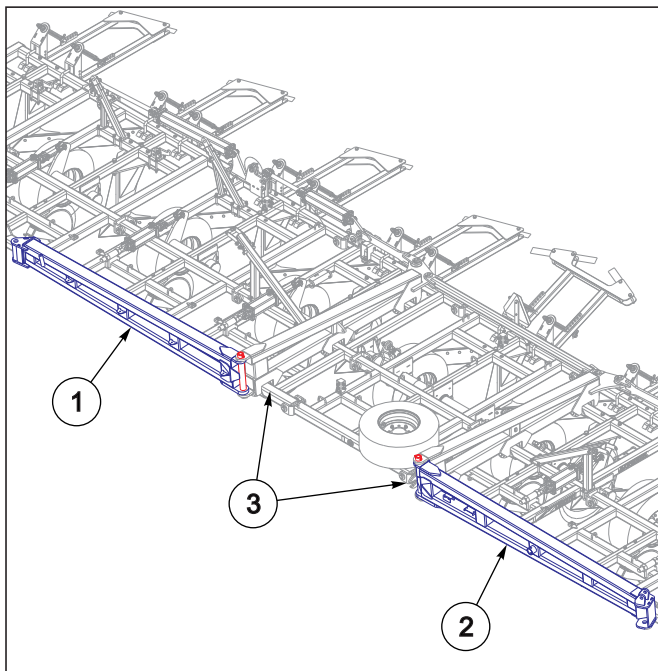

Figure 3-1: Hitch Transport Position
2. The RH, (1) and LH (2) hitch weldments will need un-banded from LH and RH center frames, (3) and swung forward See Figure 3-1, to the field position.